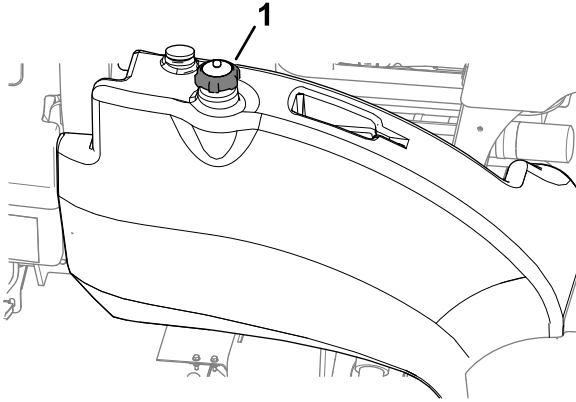

Figure 28
- Remove the cap from the fuel tank (Figure 28).